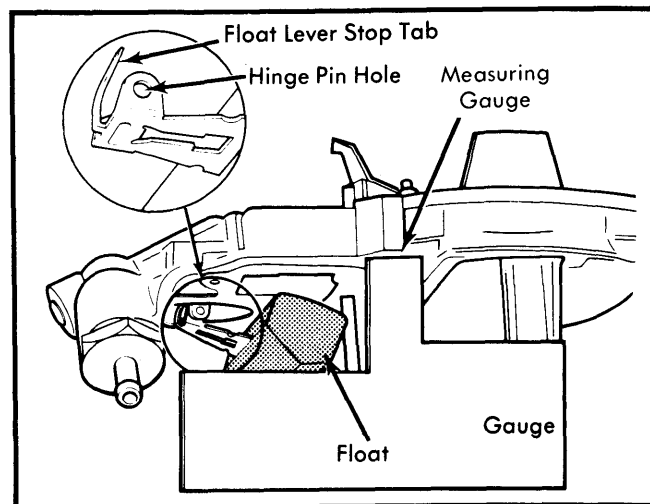

Fig. 2 Float Drop Adjustment
1) With upper body and gasket removed, hold upper body upright and allow float to hang down. Construct a gauge (as shown in Fig. 2) to specified float drop setting. Measure distance from casting surface of upper body to bottom of float.